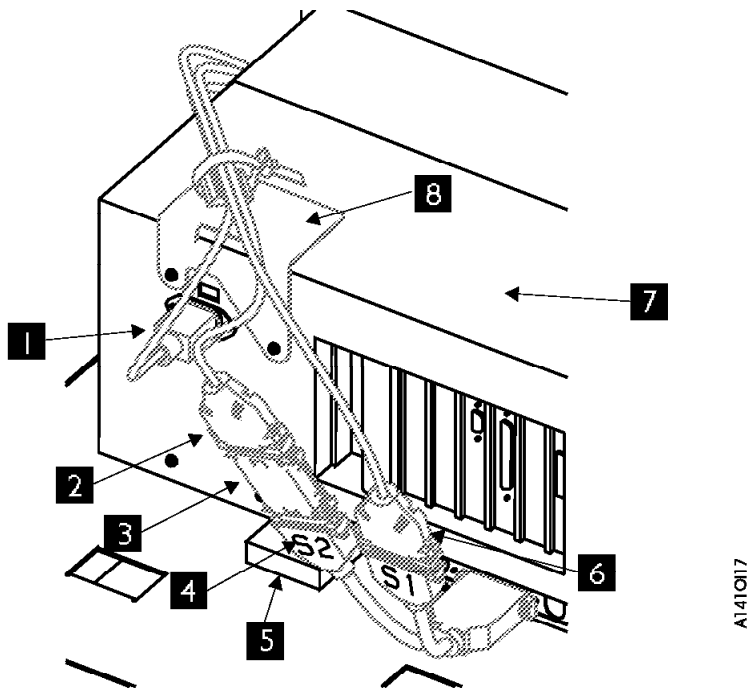

Figure 6-35. A00 Controller Cable Clamp and Cable Routing
- a. Lay the ESCON host cable over the top of the A00 Controller, slightly hanging down the back (see **8** on Figure 6-35 on page 6-63.)
- b. Move the A00 Controller out far enough to install the ESCON cable(s) to the back of the Model A00 Adapter Slots 3 and 4 (see Figure 6-33 on page 6-60 and Figure 6-35 on page 6-63).
- 1) The following legend describes Figure 6-35 on page 6-63:
- a. Lay the ESCON host cable over the top of the A50 slightly hanging down the back, (see **8** on Figure 6-35 on page 6-63.)
- b. Move the A50 out far enough to install the ESCON cable(s) to the back of the Model A00 Adapter Slots 3 & 4 (see Figure 6-33 on page 6-60 and Figure 6-35 on page 6-63).